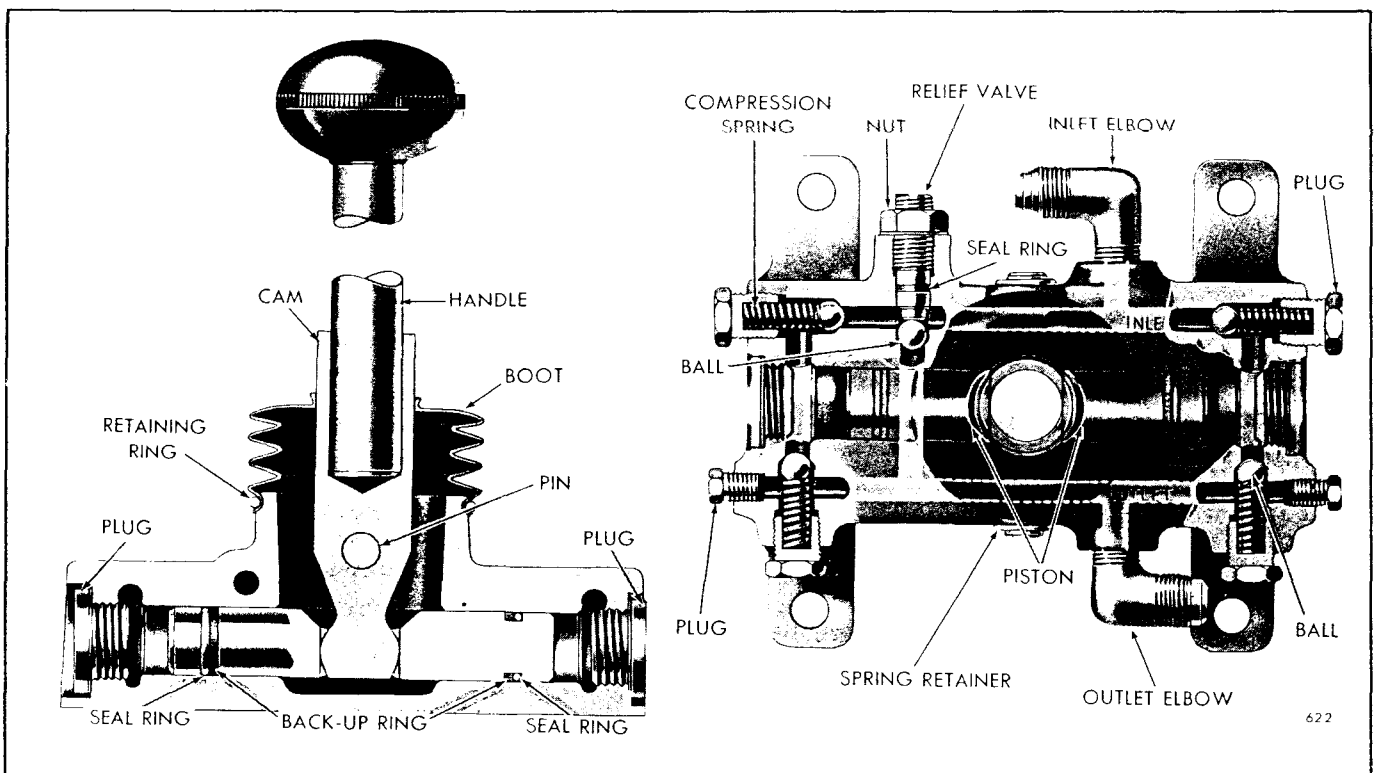

Fig. 19 - Cross Sections of Hydrostarter Hand Pump
The hand pump (Fig. 19), is a single piston double-acting positive displacement type. It is mounted in such a manner that the pumping action is never in a vertical direction and the handle clears all obstructions throughout its complete stroke. The handle may be removed and stored when the pump is not in use.
1. Release the pressure in the Hydrostarter system by opening the relief valve (Fig. 19) on the side of the pump approximately 1/2 turn.